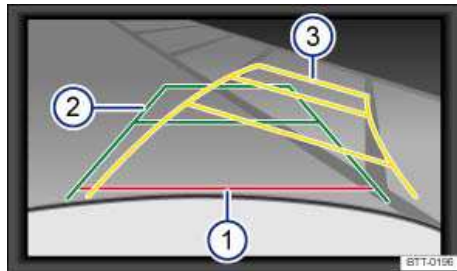

Fig. 156 On the screen: Orientation lines of the parking area behind the vehicle.
Switch on the display automatically:	Shift into Reverse (R) with ignition switched on or engine running. Mode 1 is displayed ⇒ fig. 156.
Meaning of the orientation lines projected on the screen ⇒ fig. 156. All distances of the orientation lines refer to a vehicle on a level surface.